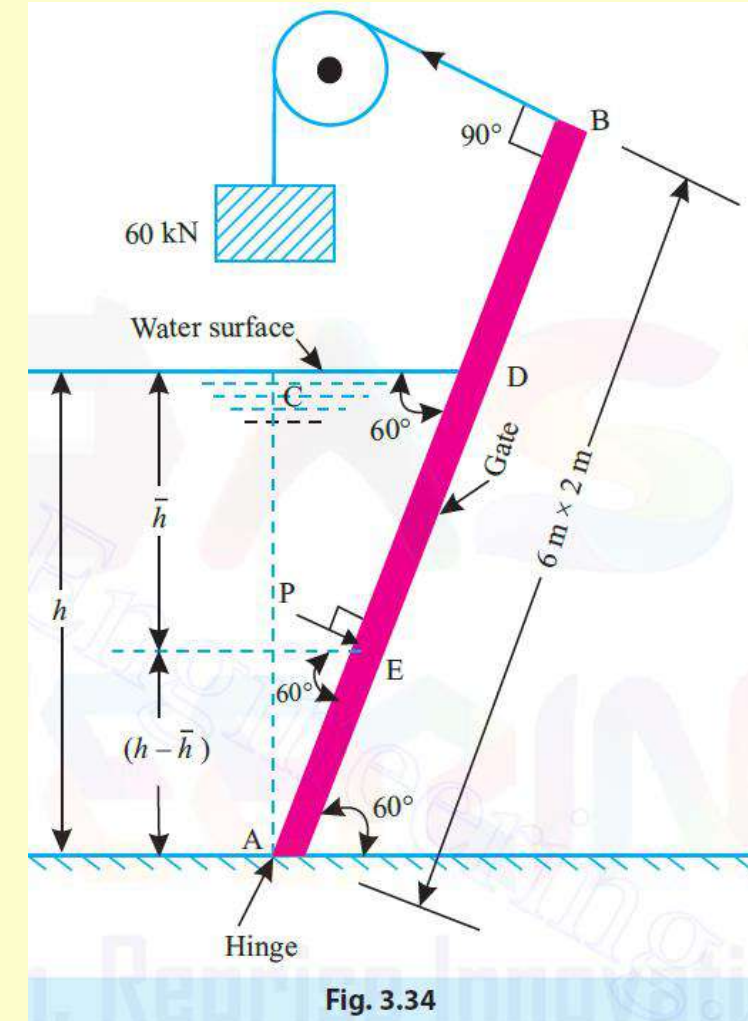

Fig. 3.34
**Example 3.25.** A  $6\text{ m} \times 2\text{ m}$  rectangular gate is hinged at the base and is inclined at an angle of  $60^\circ$  with the horizontal. The upper end of the gate is kept in position by a weight of  $60\text{ kN}$  acting at angle of  $90^\circ$  as shown in Fig. 3.34. Neglecting the weight of the gate, find the level of water when the gate begins to fall.